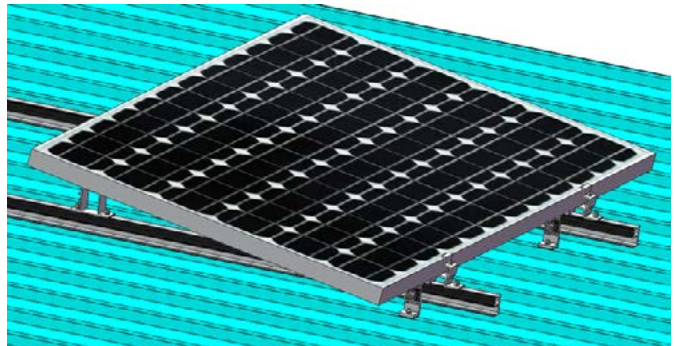
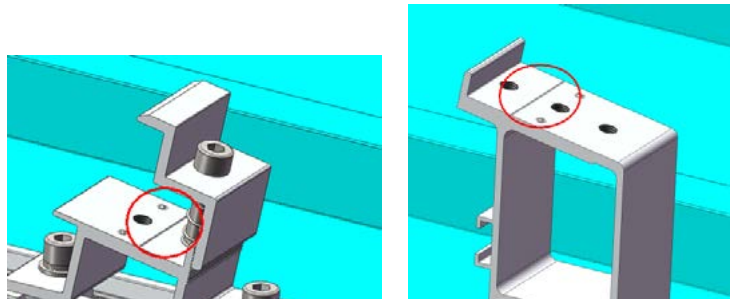

Figure 21
Figure 22
5.5.1 Place the PV Modules on the Front and Rear Leg as shown Figure 21. The outside edge of the frame of the PV Modules must overlap the marking lines on the Front and Rear Legs as shown in Figure 22. The pins of Front and Rear legs are used for creating earthing continuity from PV modules to both legs.